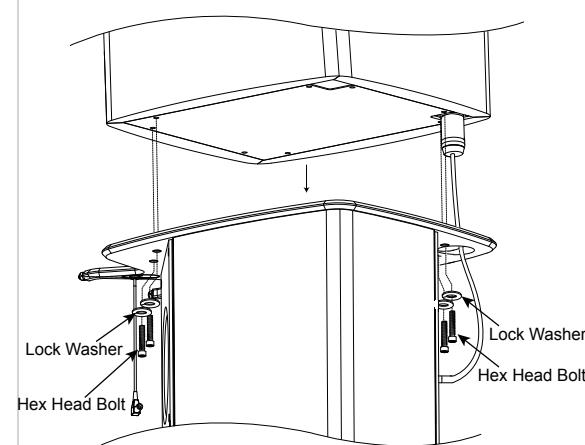

Figure 13
4. Carefully align the bottom of the Upper Section Low Frequency Column with the Low Frequency Midrange and Low Frequency Lower Section Column. Make sure the openings on the Metal Plate for the Hex Head Bolts line up with the Bolt Openings on the Bottom of the Upper Section Low Frequency Column. Refer to figure 13.